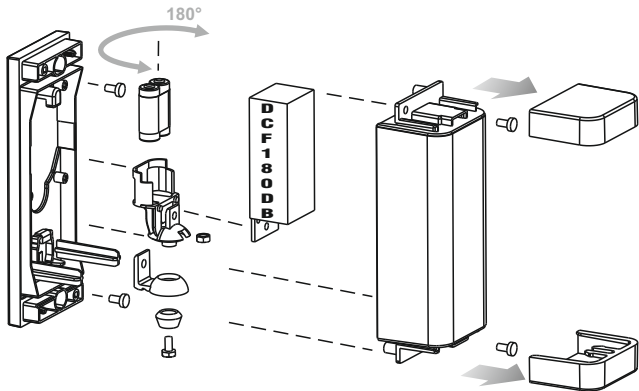

FIG. 1
Fix the photocells and make connections as shown in **Fig. 1 (RX)** **Fig. 2 (TX)**. Cover the photocell with the front part and secure with the screws provided. Pass across the photocell range several times, to check relay response.